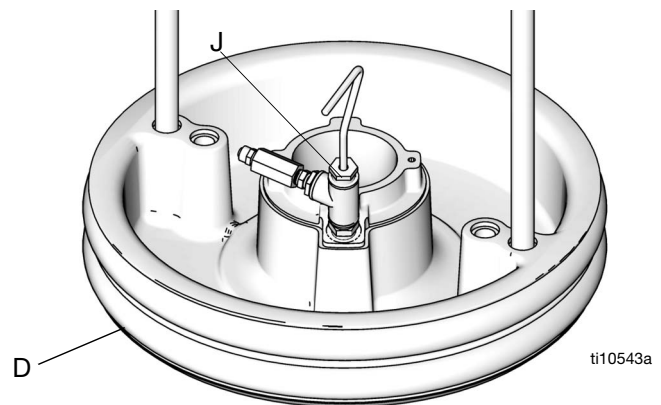
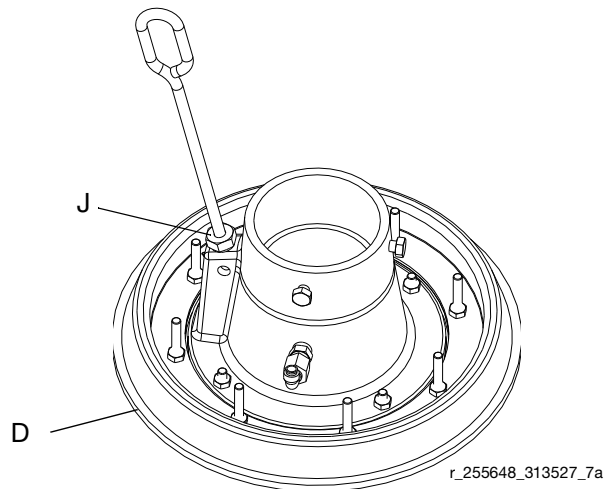

FIG. 19: D200 and D200s 6.5 in. Dual Post
FIG. 20: S20 and D60 3 in. Single Post
8. Inspect platen seals (D) for damage and lubricate with grease or other lubricant compatible with the fluid to be pumped. See FIG. 19 and FIG. 20.
12. Put a full drum of material on the ram base, slide it back against the drum stops, and center it under the platen (D). Drum styles vary, so the drum may not be perfectly centered when positioned against the drum stops. An optional drum roller kit is available for D200 and D200s supply systems to make it easier to load the drum on the base. Order Kit 255627.